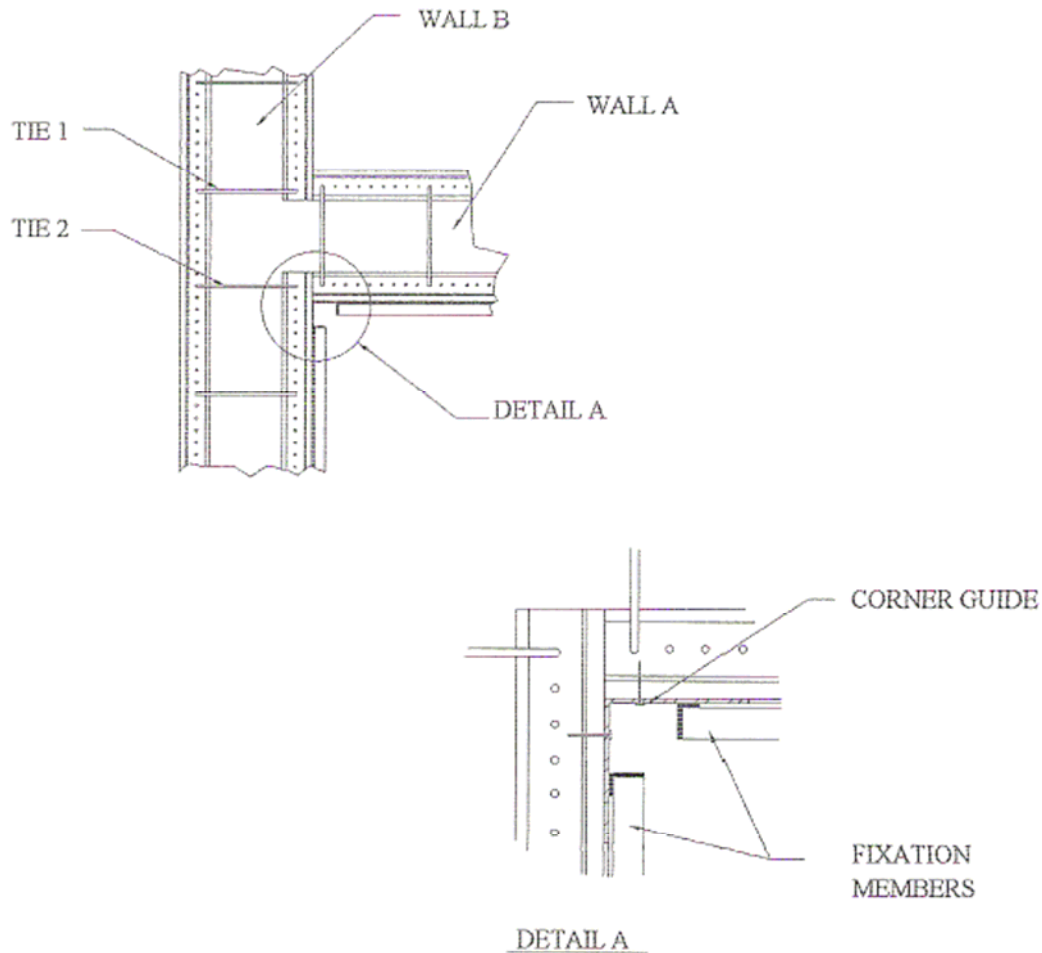

**Figure 7.3.a Curve of the panels**
- Repeat this operation at intervals of approximately 4 inches c/c/ (Figure 7.3.a)